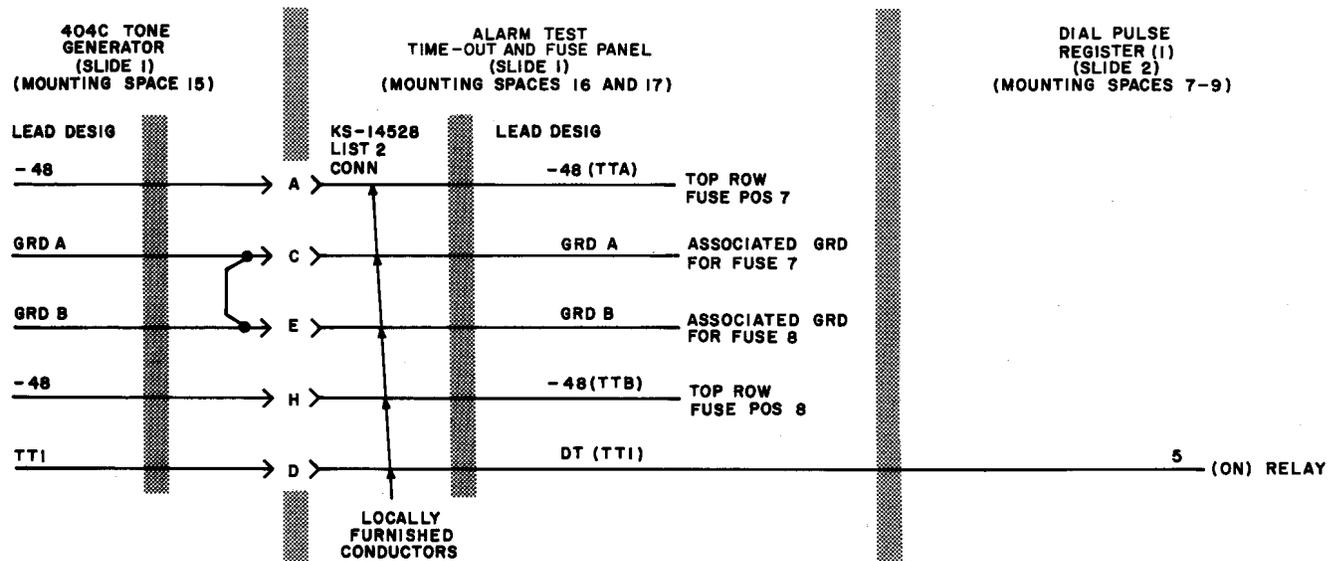

Fig. 23—Connections for 404C Tone Generator, List 3 (MD) Cabinet Assembly
8.05 Mount the 404C tone generator in position 15 on slide 1. Install 5 conductors on KS-14528, List 2 connector and connect free ends of conductors to alarm test time out and fuse panel (slide 1, as shown in Fig. 23). Plug connector into tone generator and install fuses as required.
8.07 If 404C tone generator has not been provided with the list 8 (MD) cabinet assembly, order separately and install per paragraph 8.05 and Fig. 23.
8.12 Insert TOUCH-TONE calling A3 receivers A and B in the receiver mounting shelf. Refer to paragraph 8.05 and Fig. 23 for installing the 404C tone generator.
8.15 Refer to paragraph 8.05 and Fig. 23 for installing the 404C tone generator. References for Part 8 are as follows:
9. STATION MAKE-BUSY UNITS, LISTS 3, 4, 8, AND 9 (MD) CABINET ASSEMBLIES